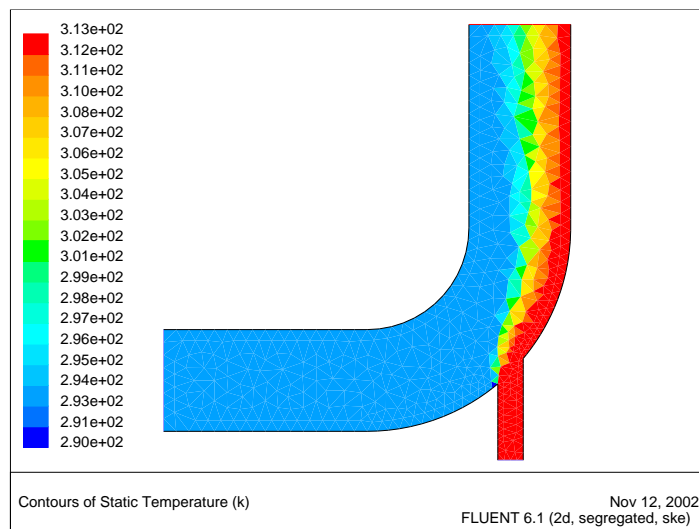

Figure 1.13: Temperature Contours for the Second-Order Solution: Cell Values
1. Plot filled contours of temperature on a cell-by-cell basis (Figure 1.13).